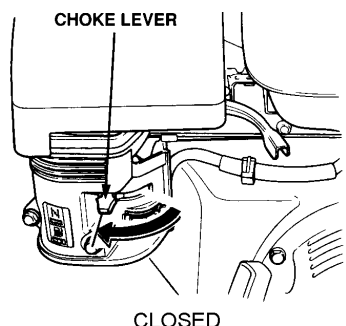

Figure 9. Engine Choke Lever (Closed)
3. Place the choke lever (See Figure 9) in the **CLOSED** position if starting a cold engine.